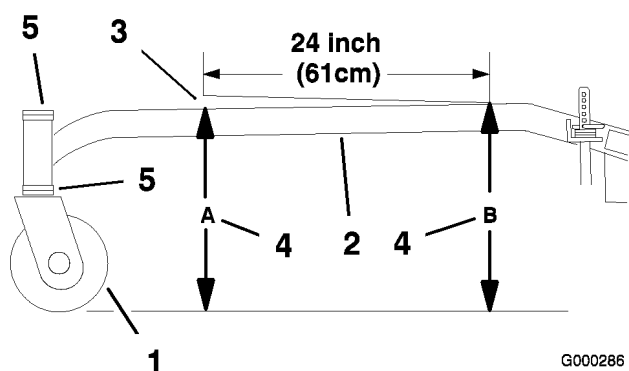

Figure 61
The carrier frame must have a pitch of a 1/4 inch (6 mm) over the length of 24 inches (61 cm) on the carrier frame (Figure 61).
- Measure out 24 inches (61cm) on the carrier frame (Figure 61).
- Measure carrier frame height at location **A** (Figure 61).
- Measure carrier frame height at location **B** (Figure 61).
- The height at location A must be a 1/4-3/8 inch (6 mm -10 mm) lower than location **B** (Figure 61).
- If the carrier frame is not correct, move caster spacers to make it a 1/4-3/8 inch (6 -10 mm) pitch (Figure 61). Move spacers from top or bottom to make the correct pitch.